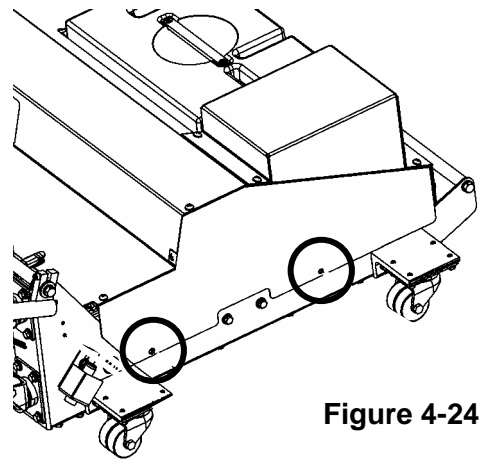

Figure 4-24
1. Remove the screws on each side of the hood, as shown in Figure 4-24, and lift the hood off the frame. Set aside the screws.